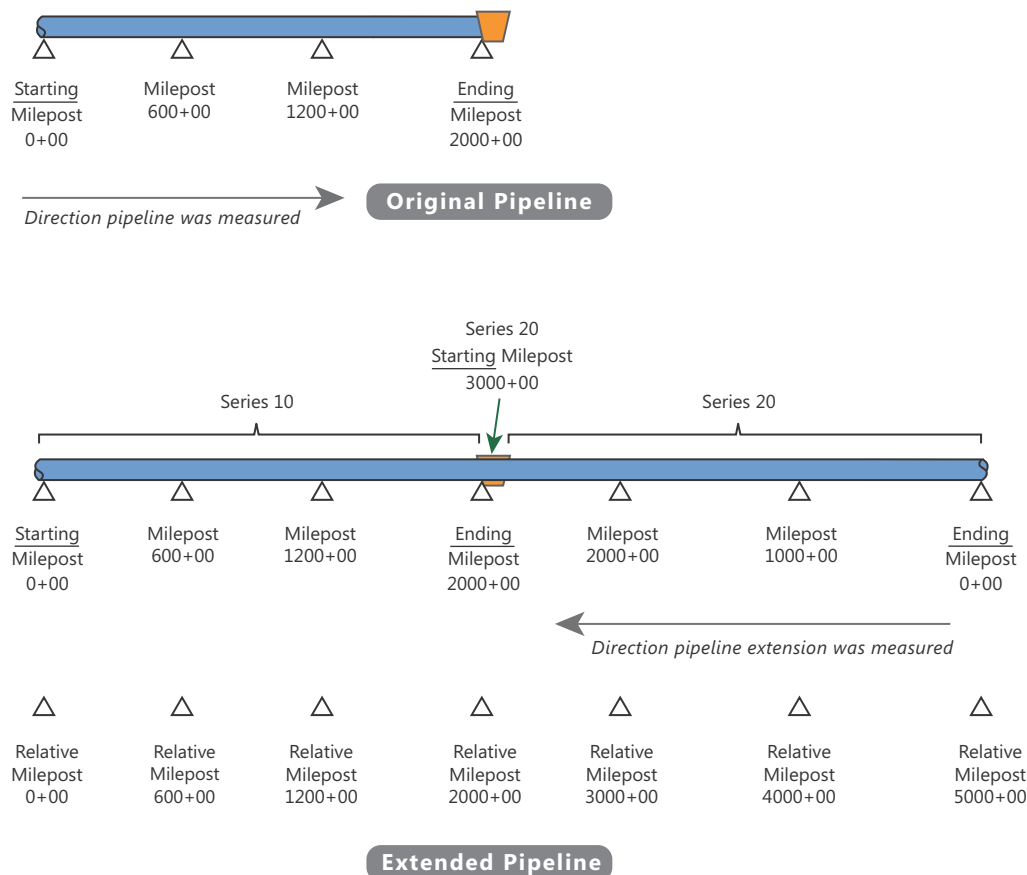
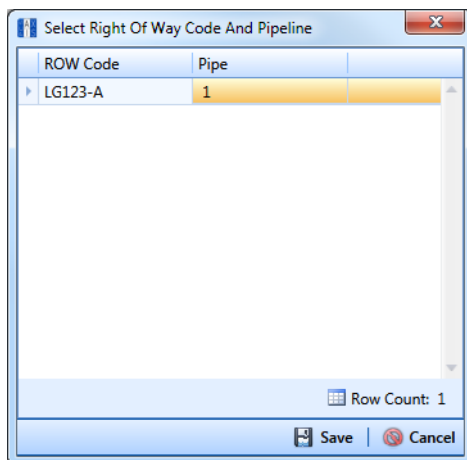
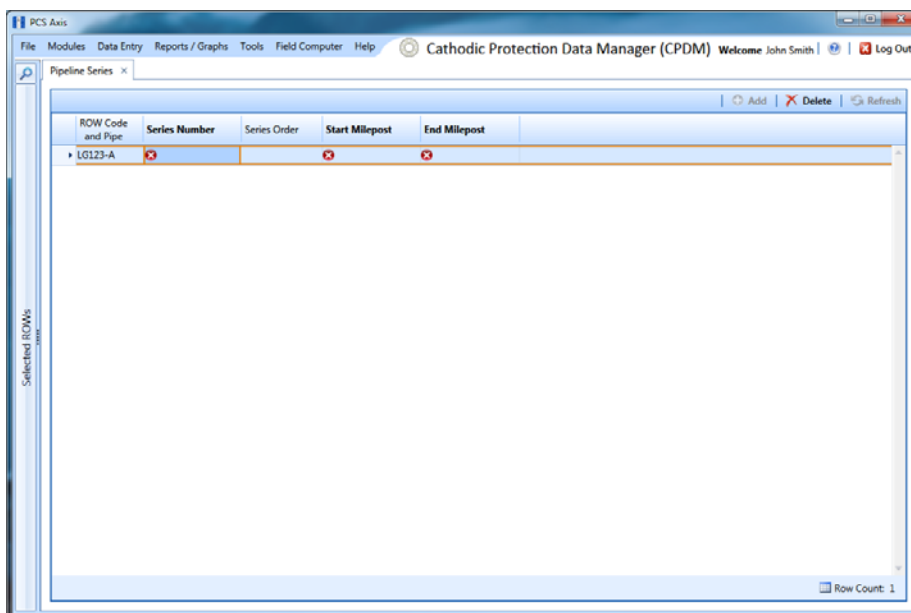

Figure 2-36. Example of an Extended Pipeline with Mileposts Set in Reverse Order
Figure 2-39. Select Right Of Way Code And Pipeline
Figure 2-40. Pipeline Series
The procedure in this section describes how to add a *Pipeline Series* definition and then apply it to effected milepost numbers in a facility data entry grid. The example in the procedure adds a pipeline extension with mileposts numbers set in reverse order as shown in the following example (Figure 2-36).
- 4 Click  **Add** and select the pipeline you want to work with in the dialog box that opens (Figure 2-39). Then click  **Save** to close the dialog box and return to the *Pipeline Series* window (Figure 2-40).
NOTE: Fields requiring information include a  red icon, such as *Series Number*, *Start Milepost*, and *End Milepost* shown in the next example (Figure 2-40).
In the example shown in Figure 2-36 (page 74), *Series 10* was added for the original pipeline segment with a start and end milepost of 0+00 and 2000+00 respectively. *Series 20* was added for the pipeline extension. Because the mileposts are in reverse order in *Series 20*, the *Pipeline Series* is set up with a start and end milepost of 3000+00 and 0+00 respectively (Figure 2-40).